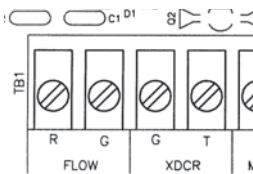

Figure 3.1
2. Connect the transducer cable connector to the terminal locations on the lower left corner of the FD6000 Series main circuit card. See **Figure 3.1**.